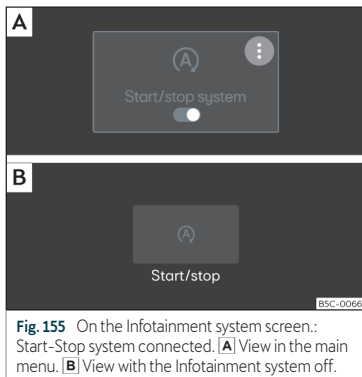

Fig. 155 On the Infotainment system screen.: Start-Stop system connected. [A] View in the main menu. [B] View with the Infotainment system off.
When the symbol (A) appears orange »» **Fig. 155** the system is activated and will stop and start. When the symbol (A) appears in white the system is disconnected.